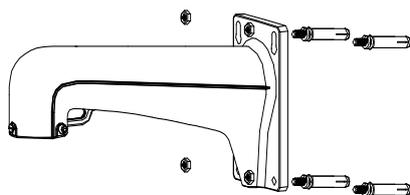

Figure 3-27 Secure the Bracket
- The bracket in Figure 3-27 is the recommended bracket for this series of speed dome, and a pendent adapter is required if any other bracket is selected.